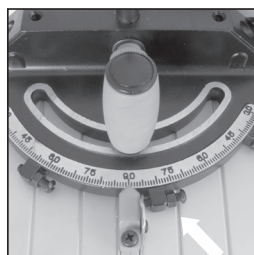

FIG. 24
- Loosen the index screws locking nut. (**Fig. 24**)